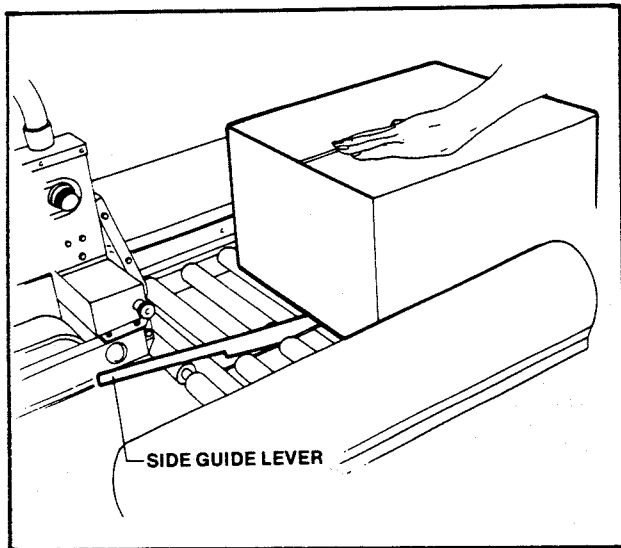

Figure 16 - Side Guide Valve Lever
1. A valve lever in the center of the infeed roller conveyor actuates movement of the side guides. When the operator pushes a box onto the infeed conveyor, as shown in Figure 16, the lever is depressed causing the air cylinder powered side guides to move inward, therefore centering the box.